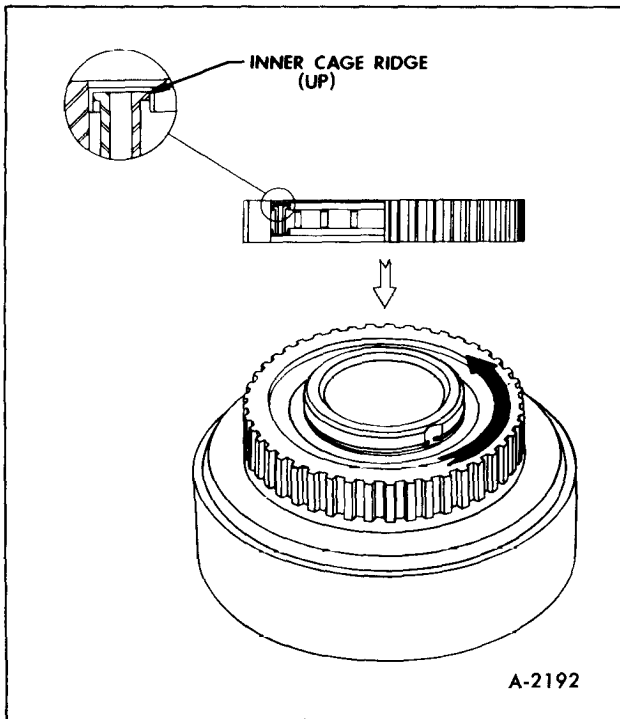

Figure 75—Sprag Rotation
**NOTE:** When installed, outer race should turn only counterclockwise, Figure 75.